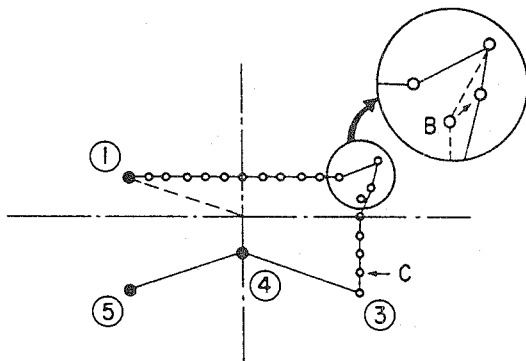
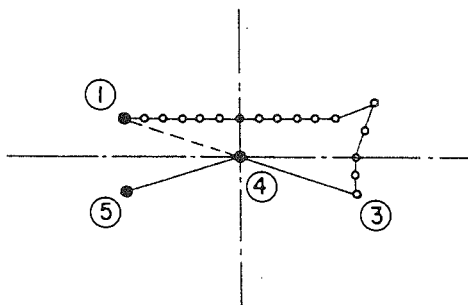

Fig. 5
Fig. 6
Step 17 Move the needle to position B shown in Fig. 5. Then press the **8** and **2** keys until **02** [Point movement (absolute)] is shown by the **Function** LED. Then press the **Reset (Select)** key.
Step 20 Move the needle using the **Forward** and **Backward** keys, and confirm that the needle entry point has been moved as illustrated in Fig. 5.
Step 21 Move the needle to position C shown in Fig. 5. Then press the **8** and **2** keys until **11** [Point deletion (relative)] is shown by the **Function** LED. Then press the **Reset (Select)** key.
Step 23 Press the **Forward** key until the needle reaches position ③. Then press the **Counter (Set)** key.
Step 24 Move the needle using the and keys, and confirm that the needle entry point has been erased and the pattern after the deleted point has moved as illustrated in Fig. 6.
Step 25 Move the needle to position ④ shown in Fig. 6. Then press the and keys until [Point movement (relative)] is shown by the LED. Then press the key.